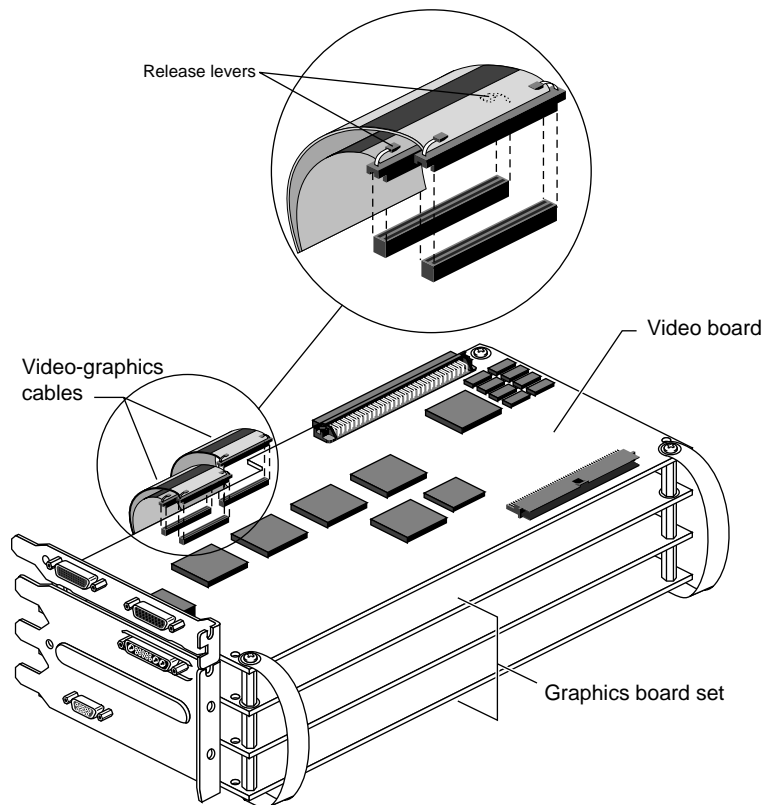

Figure 2-21 Attaching the Video-Graphics Cables to the Video Board
7. Attach the two video-graphics cables to the corresponding connectors on the video board (Figure 2-21).
8. Slip the innermost cable through the outermost cable levers of the two-cable set. See Figure 2-21.